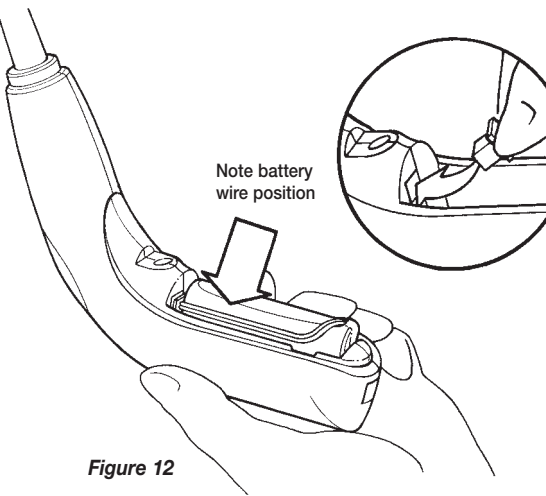

Figure 12
2. To remove the battery, gently pull battery plug out of the receptor and replace with new battery (Figure 12). Do NOT remove the protective foam from the new battery.